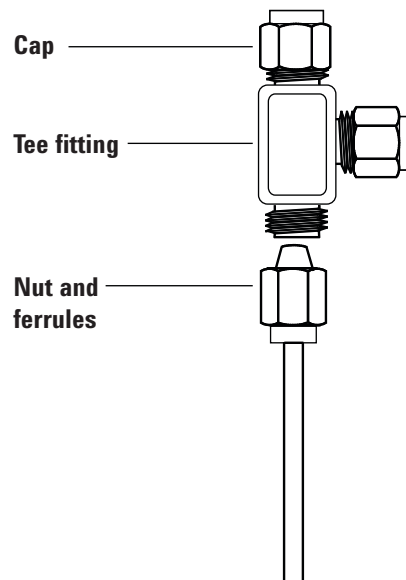

Figure 31 Swagelok tee
- 1 Cut the tubing where you want to install the Tee. Connect the tubing and Tee with a Swagelok fitting. See Figure 31.